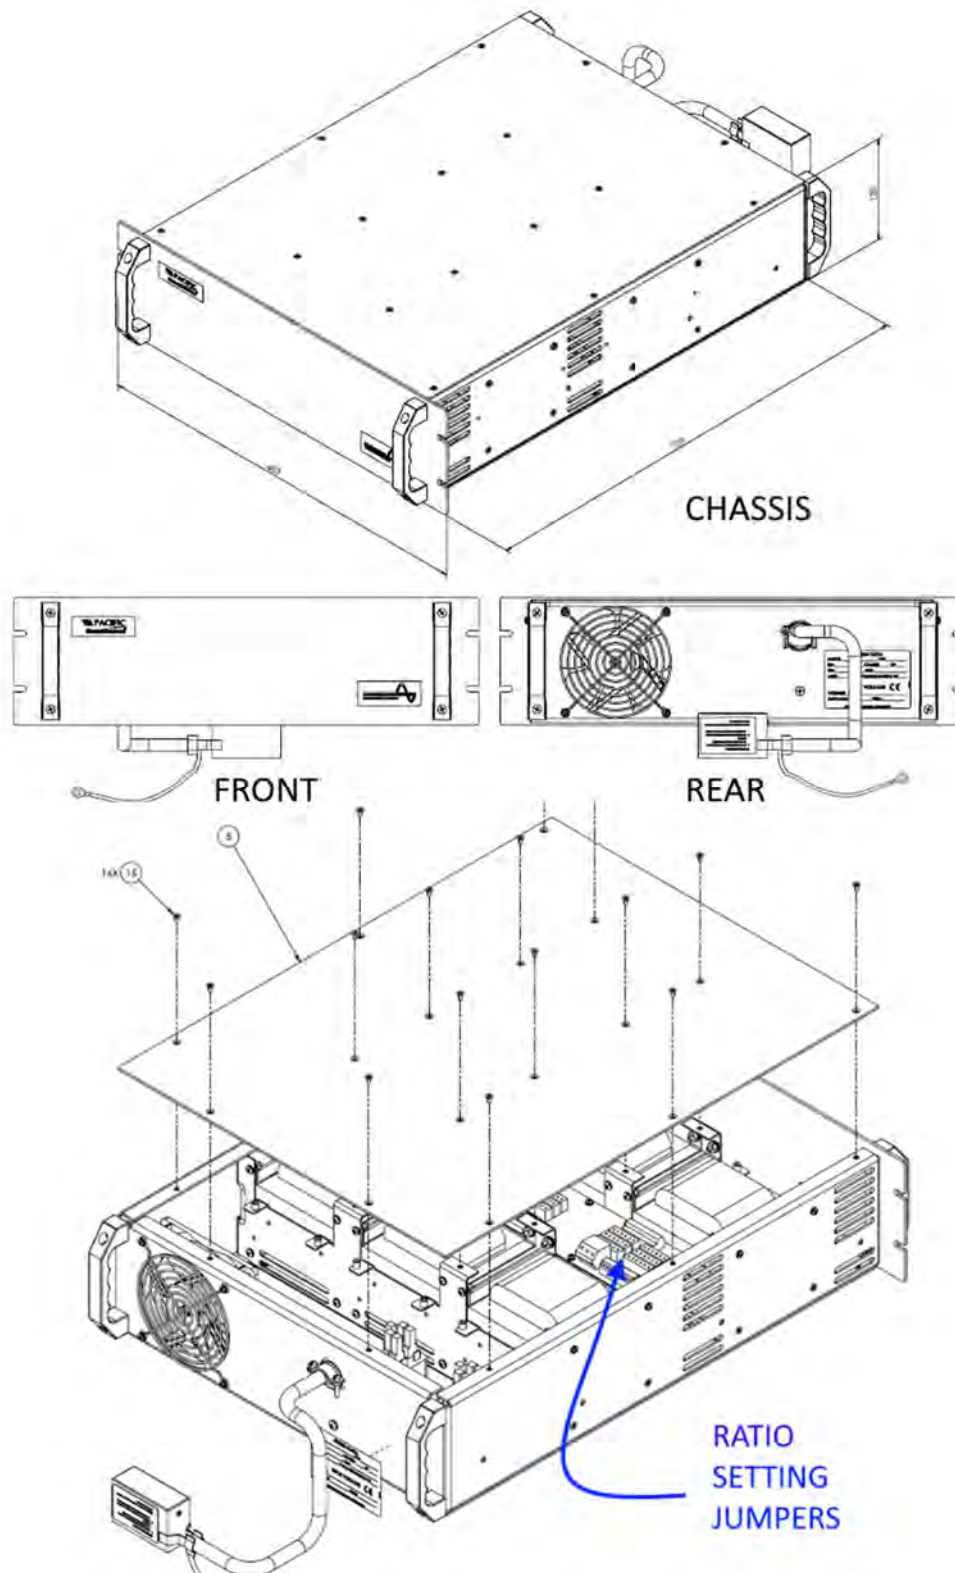
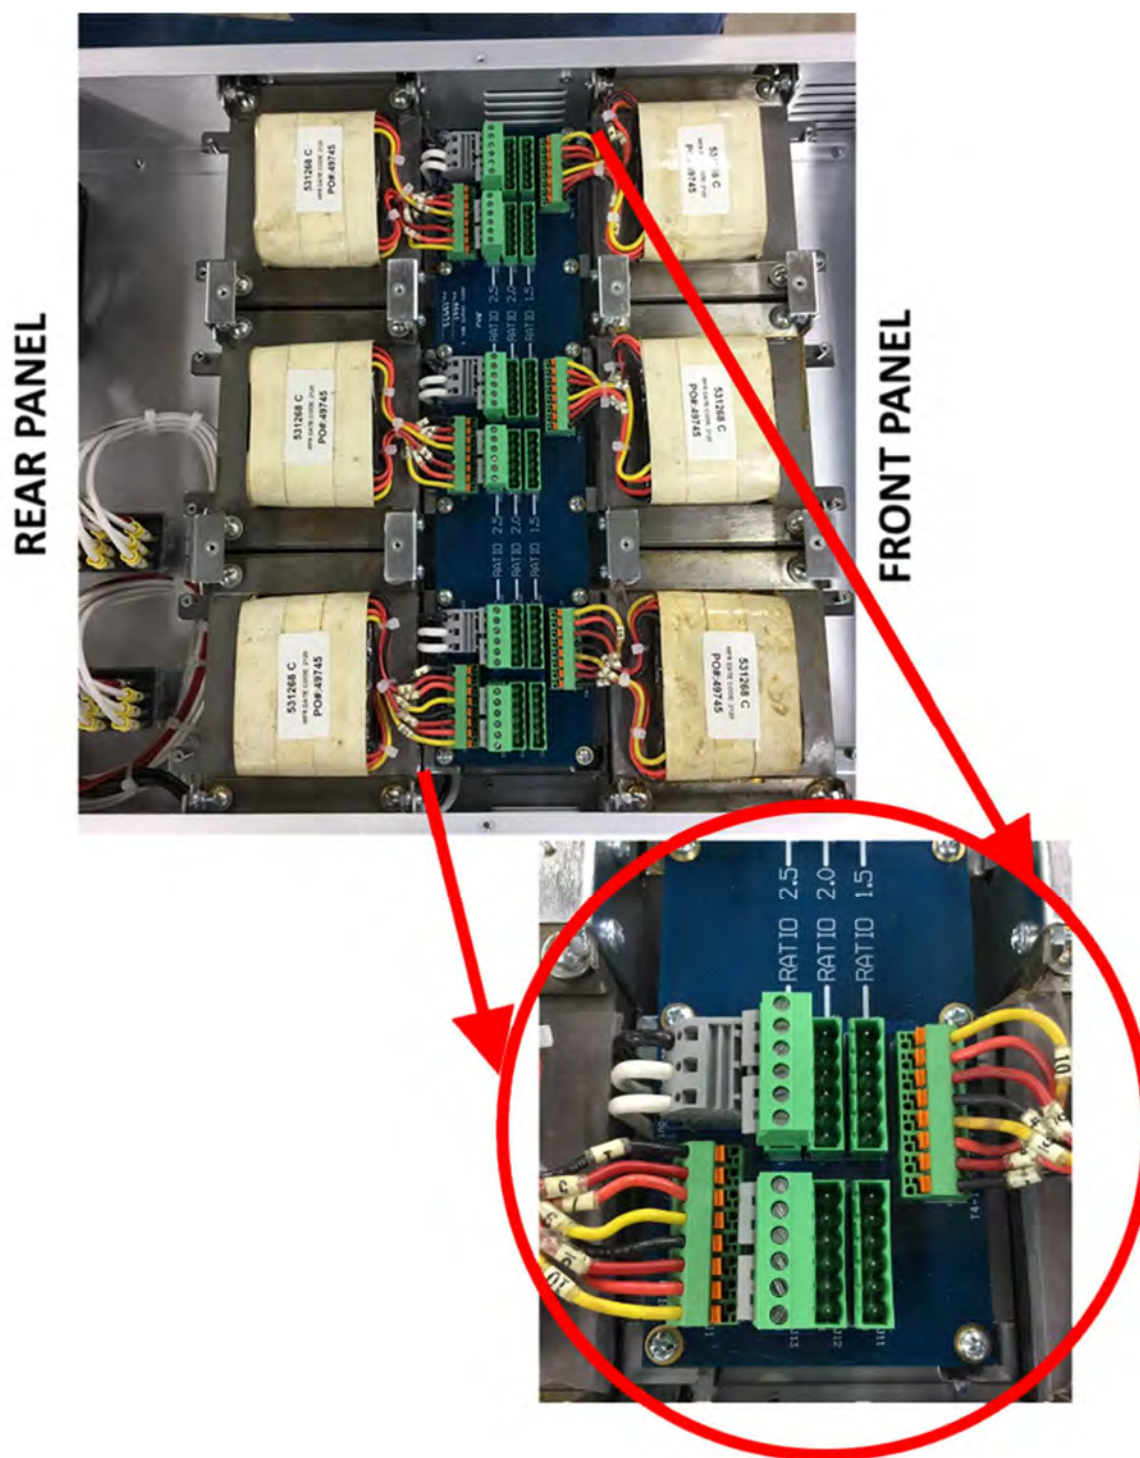

Figure 5-9: External Output Transformer Module Chassis Drawing Load Connections
Figure 5-10: External Output Transformer Module Configuration Jumpers
For all 5U rack height LSX models, the magnetics module consists of a separate 3U rack mount chassis that contains the transformers and connects to the power source. The Magnetics Module (Assembly No. 134780) is required for the VR1.5, VR2.0, and VR2.5. Refer to Figure 5-9 on page 76.
3. Move all jumpers to the desired transformer ratio position. All jumpers must be in the same row. The ratio is shown on the circuit board. Refer to Figure 5-10 on page 77.
The wiring requirements for a low range (0-132 Vac, 0-135 Vac or 0-150 Vac ) single phase load are shown in Figure 5-10.
used in addition to the wiring described above. Refer to Figure 5-9 and Figure 5-10 for connection details.
The wiring requirements for three phase loads (WYE or DELTA) are shown in Figure 5-9.
Figure 5-10 shows the external sense wiring for 1, 2, and 3 $\phi$  systems. There is little or no current flowing through the External Sense metering lines. Standard 22 AWG, 600 Volt (0.050" or 1.27mm ) control wire is recommended for this application. Twisting the External Sense wiring is recommended and, in some cases, can improve performance. In noisy environments, shielding may become necessary. If shielded cable is used, be sure to ground the shield at one end only, to prevent the possibility of creating a ground loop.